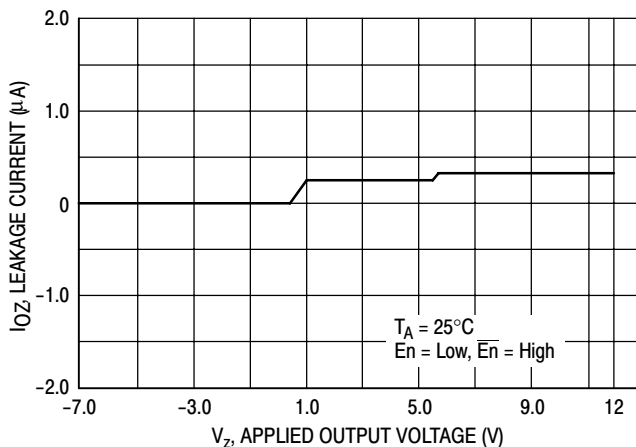

Figure 13. Output Leakage Current versus Output Voltage
- c) the junction temperature exceeds the trip point of the thermal shutdown circuit (see below). When in this condition, the output’s source and sink capability are shut off, and only leakage currents will flow (see Figures 13, 14). Disabled outputs may be taken to any voltage between -7.0 V and 12 V without damage.